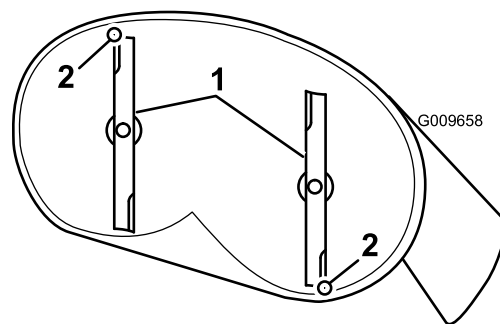
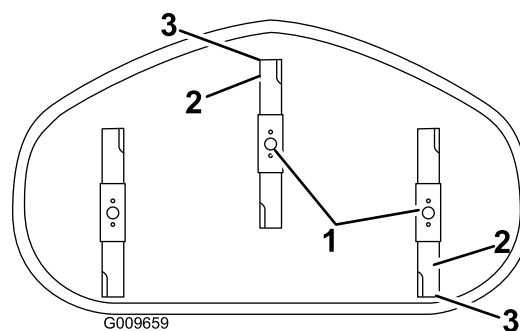

Figure 58
Figure 59
4. Carefully rotate the blades so they are facing front to rear (Figure 58 and Figure 59).
5. Measure from the tip of the front blade to the flat surface, and the tip of the rear blade to the flat surface (Figure 58 and Figure 59).
9. After adjustment, check the front-to-rear slope again, continue adjusting the nut until the front blade tip is 1.6 to 7.9 mm (1/16 to 5/16 inch) lower than the rear blade tip (Figure 58 and Figure 59).